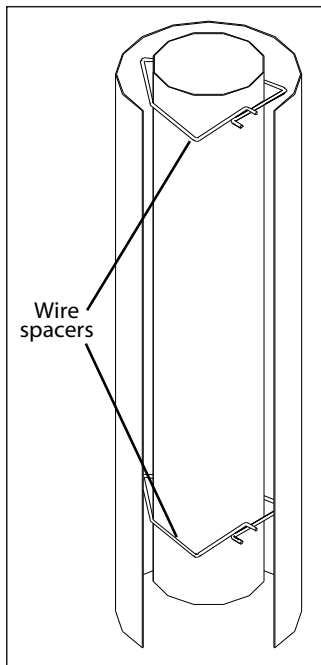
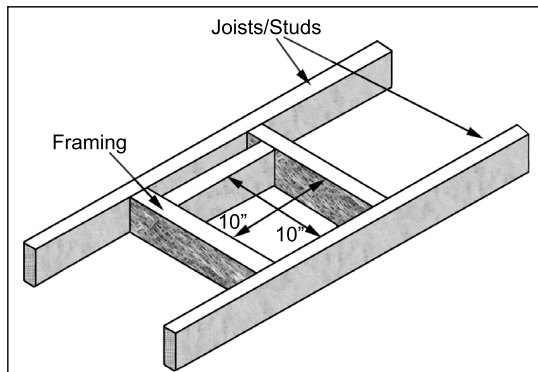
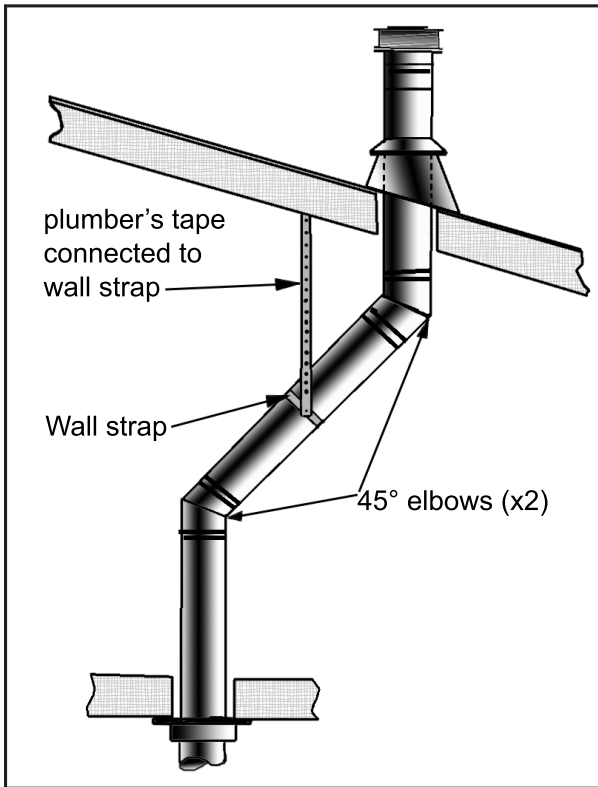

Figure 25: Wire Spacers.
Figure 29. Vent Framing For Wall or Ceiling.
Figure 36: Use of Wall Straps.
4. Frame the hole as shown in Figure 29.
5. Trim the wall thimble to match the wall thickness as necessary. Install the wall thimble and secure it to the inner wall frame using four (4) 1¹/₂" wood screws. If a wall is greater than 8" (203mm) in depth, the clearance above the flex must be 4³/₈" (111mm)
8. Slide the Ø6⁵/₈" (16.25 cm) flex intake liner over the flex vent. Install four (4) wire spacers around the flex pipe. Ensure the wire spacers are positioned at either end of the pipes, and at each end of any elbows in the liners (refer to Figure 25 and 26).
A 10" (254 mm) x 10" (254 mm) frame (see Figure 29) will assure the proper support and spacing for the vent pipe as it passes through the wall. Installations in Canada require that a wall thimble be used for passing through walls and ceilings. All sealing and vapour barriers must comply with local building codes.
Step 3. With the pipe in the correct position and attached to the fireplace, mark the wall for a 10 inches (25.4 cm) x 10 inches (25.4 cm) square hole (see Figure 29). The center of the hole should match the center line of the horizontal pipe. Cut and frame the hole in the exterior wall where the vent will be terminated. If the wall being penetrated is made of a non-combustible material (i.e. masonry or concrete) a 7 inches (17.8 cm) hole is acceptable.
Step 3. To install the Round Support Box/Wall Thimble in a flat ceiling, cut a 10 inch (25.4 cm) square hole in the ceiling, centered in the hole drilled in Step 2. Frame the hole as shown in Figure 29.
- (1)** If an offset is necessary in the attic to avoid obstructions, it is important to support the vent pipe every 3 feet (914 mm), to avoid excessive stress on the elbows, and possible separation. Wall straps are available for this purpose (see Figure 36).
- (2)** When ever possible, use 45° degree elbows instead of 90° degree elbows. The 45° degree elbow offers less restriction to the flow of flue gases and intake air.
- (3)** For multi story installations; a ceiling firestop is required at the second floor, and any subsequent floors (see Figure 29). The opening should be framed to 10" (254 mm) x 10" (254 mm) inside dimensions, in the same manner as shown in Figure 29.
- (4)** Any occupied areas above the first floor, including closets and storage spaces, which the vertical vent passes through, must be enclosed. The enclosure may be framed and sheet-rocked with standard building materials. However consult the appliance manufactures installation instructions for the minimum allowable clearance between the outside of the vent pipe, and the combustible surfaces of the enclosure. Do not fill any required air spaces with insulation.